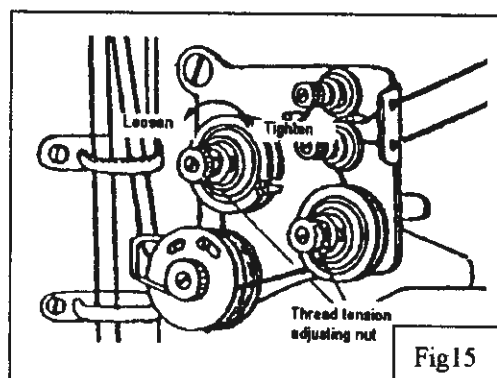

Fig15
10. Upper thread tension (Fig.15):